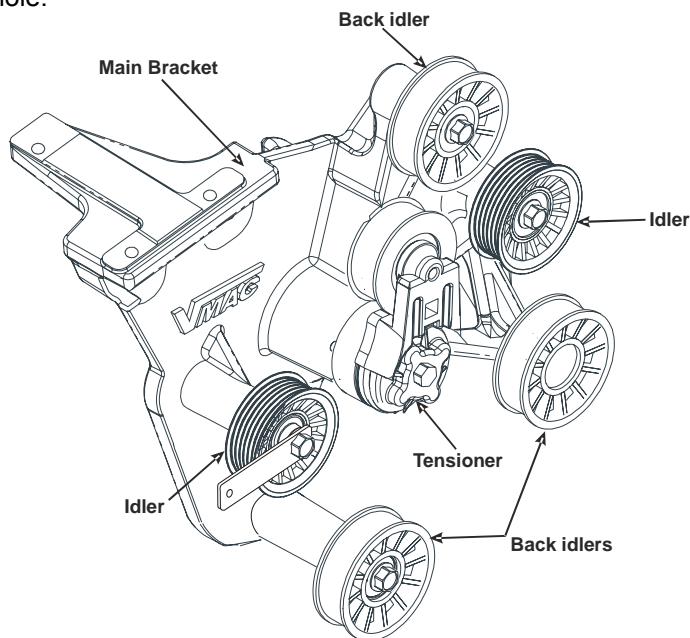

Figure 2.6
- ☐ Remove the idlers and belt tensioner assembly from the bracket (Figure 2.6).
- ☐ Attach each idler to the appropriate location (Figure 2.6). Use Loctite and torque all fasteners to specifications.